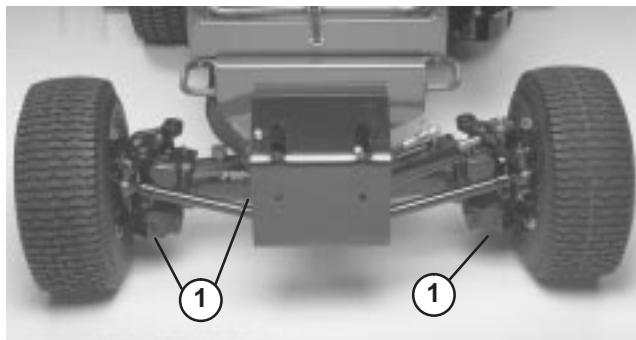

Figure 74
2. Clean area around the drain plugs (Fig. 74).